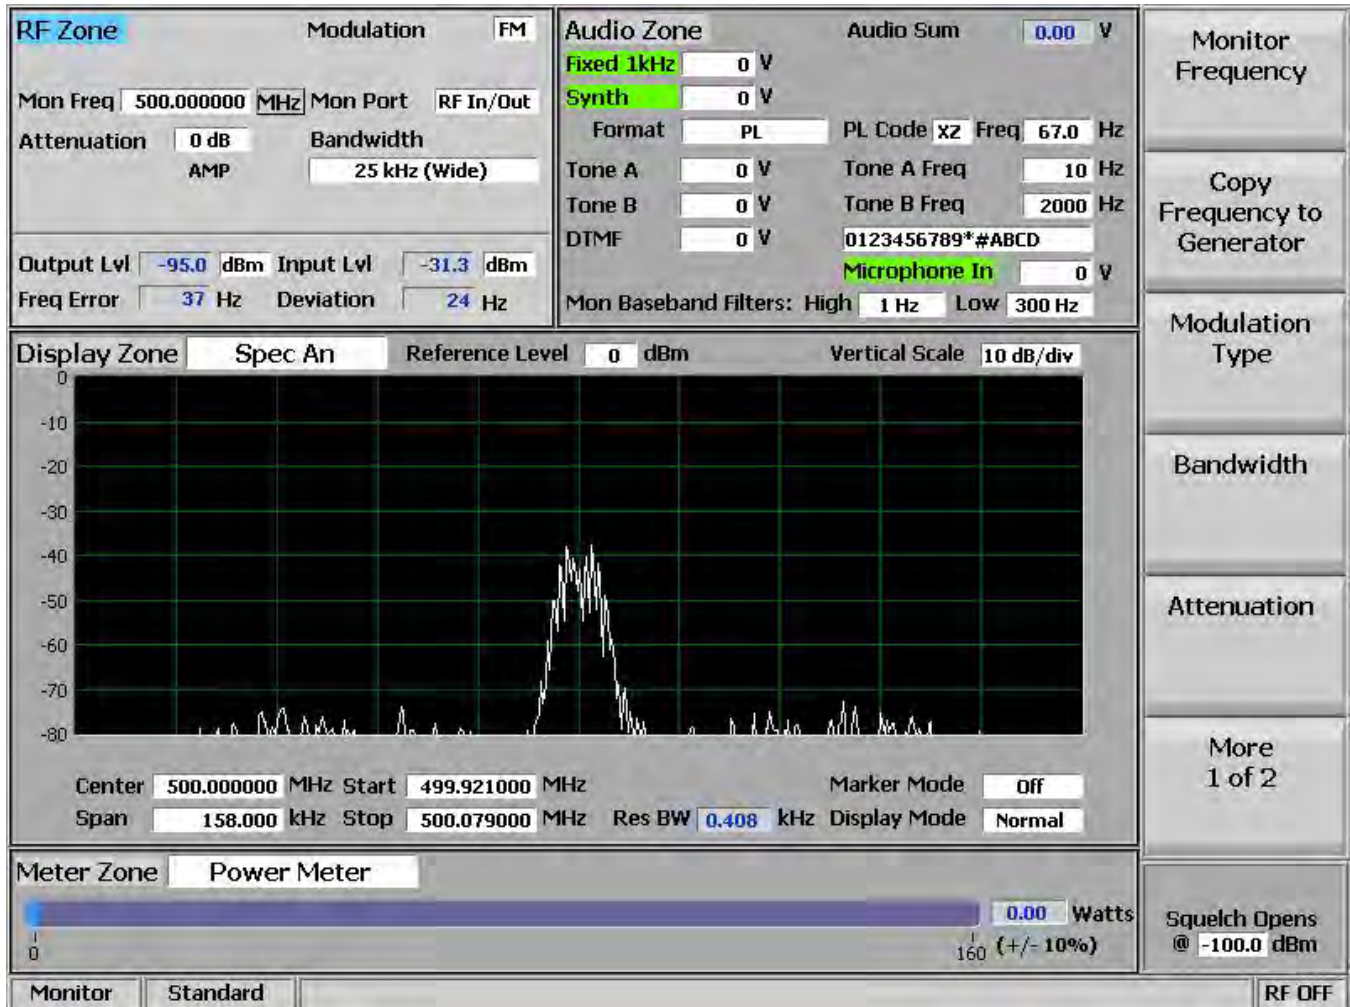

Figure 3.2.1-2 Monitor Mode submenu after RF Zone soft key press
To adjust the RF settings, press the RF Zone soft key or hot key 1. The RF Zone area of the display highlights, and the soft key submenu (shown in Figure 3.2.1-2) appears with the following selections: